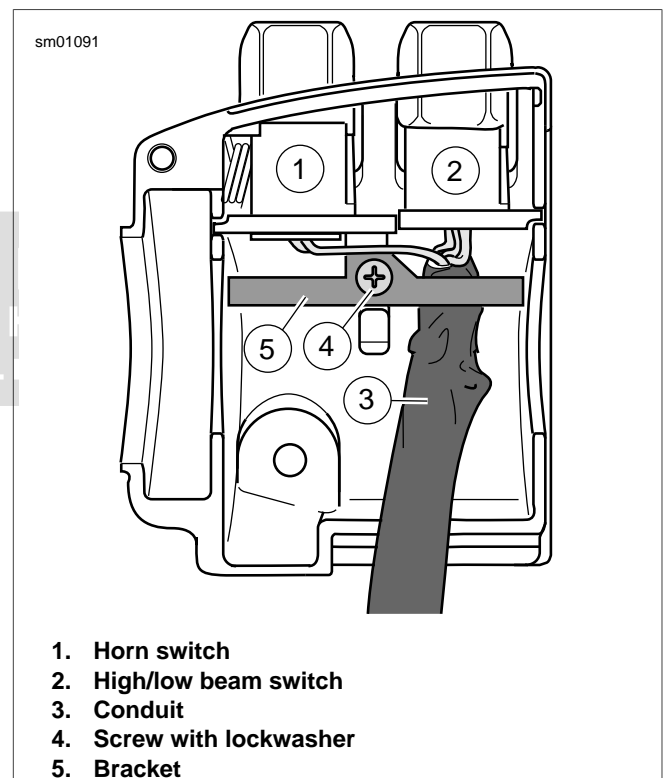

Figure 7-97. Upper Housing Without Splices
- See Figure 7-97. From inside the switch housing, remove the screw with lockwasher (4) to release the bracket (5). Remove bracket and switch assembly from the housing.
- Move cable conduit (3) from beneath wing of bracket. Cut wires 0.25 in. (6.4 mm) from old switches (1, 2). Discard old switch and bracket assembly.
- Slide conduit forward over cut ends of switch wires and cut off 0.5 in. (12.7 mm) of conduit (3) material. Push conduit back to access switch wires.
- Separate the **new** horn switch (1) and high/low beam switch (2) wires into two bundles.
splices beneath wing on high/low beam switch side of bracket as shown in Figure 7-97.
- See Figure 7-97. Install screw and lockwasher (4) to secure bracket (5) inside housing. Verify that wing on high/low switch (2) side of bracket captures edge of conduit (3) as shown.